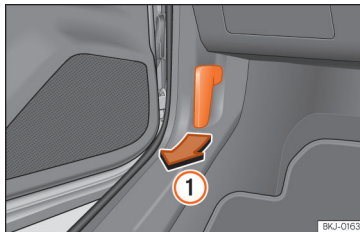

Fig. 279 Release lever in the driver's footwell area.
- Open the door and pull the lever under the dashboard »» Fig. 279 (1).